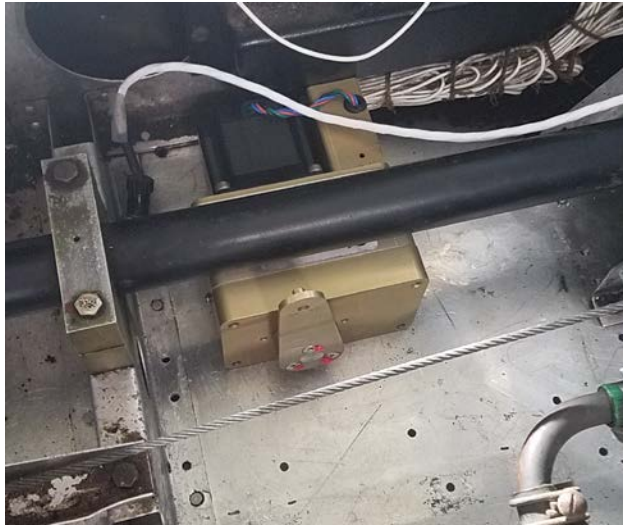

Figure 2-19
- 1.27. Place the roll servo under the flap tube in the orientation shown in Figure 2-19.